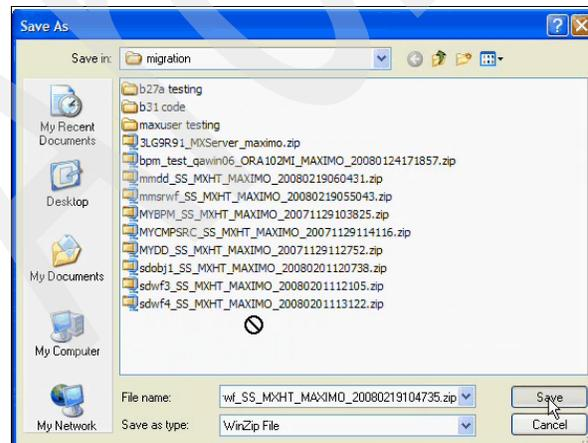

Figure 8-42 Package file download location
- A Save As dialog box is displayed, where you can select to open or save the file, or cancel the download. As you can see in Figure 8-42, the file name is the package name with a ZIP extension, which is also shown in the field File Name in the Package section of the window. We save the file on a shared file server.